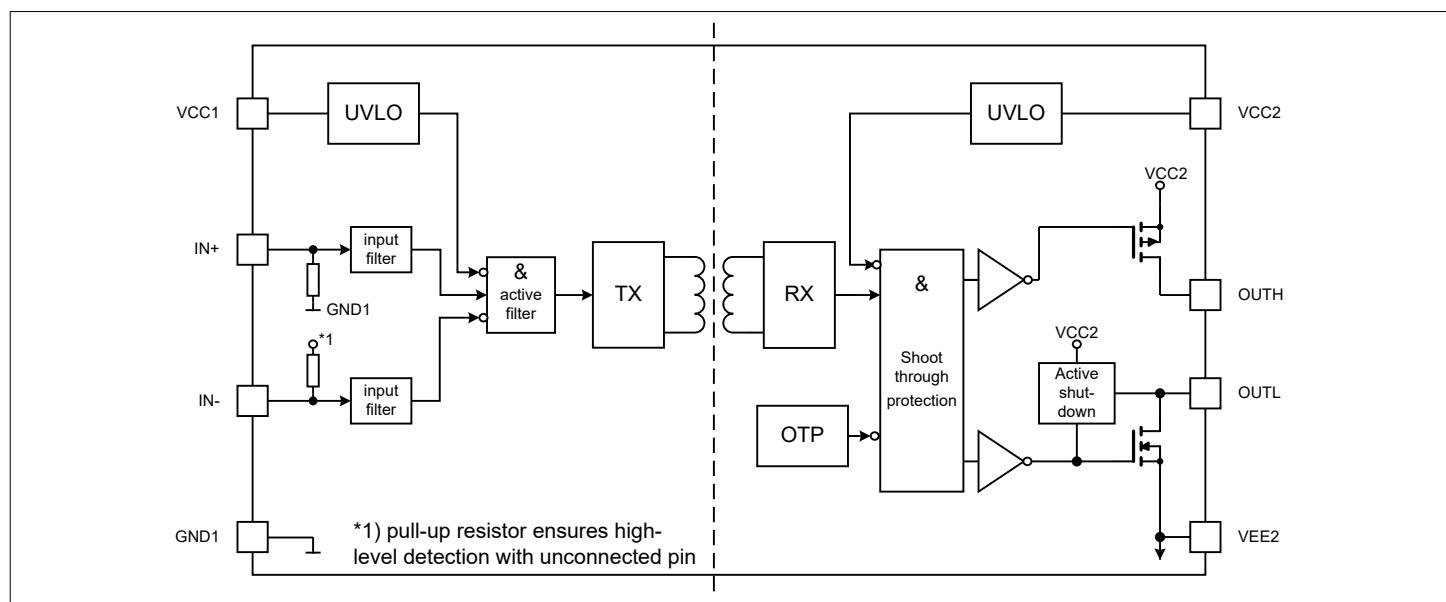

Figure 2 Block diagram for variants with separate sink and source pins (1ED3140, 1ED3141 and 1ED3142)
- **IN+:** Non-inverted control signal for driver output. An internal filter provides robustness against noise at *IN+*. If left open, an internal, weak pull-down resistor pulls this pin to a low state, as shown in Figure 2
- **IN-:** Inverted control signal for driver output. An internal filter provides robustness against noise at *IN-*. If left open, an internal, weak pull-up resistor pulls this pin to a high state, as shown in Figure 2